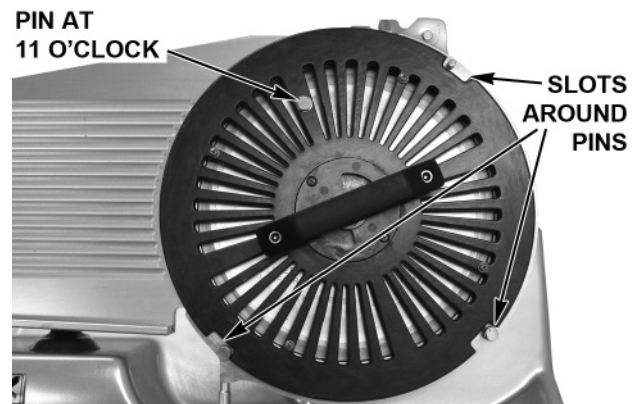

Fig. 20
- Place the Knife and Tool so the Pin on the Knife Removal Tool is at the 11 o'clock position (Fig. 20). The Slots on the Knife Removal Tool fit around the three Pins on the Ring Guard (Fig. 20).